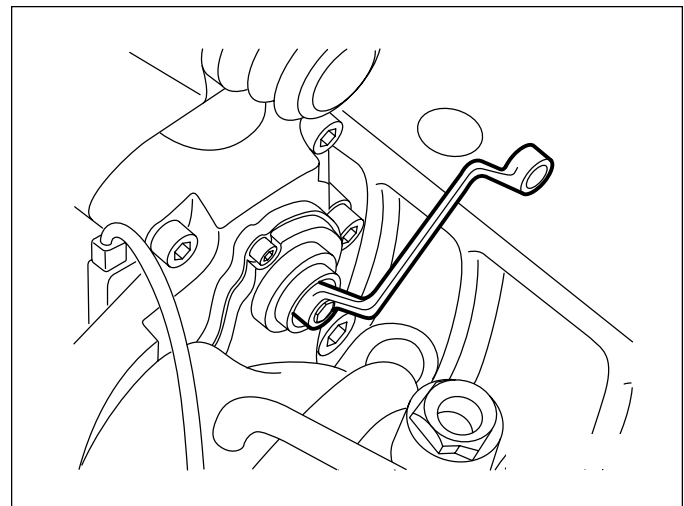

Figure 3 - Adjuster Shaft Operation
6. Use an 8 mm six-point box wrench (Figure 3) to turn adjuster counterclockwise until sufficient space exists to remove brake pads. A clicking noise occurs each time adjuster turns.